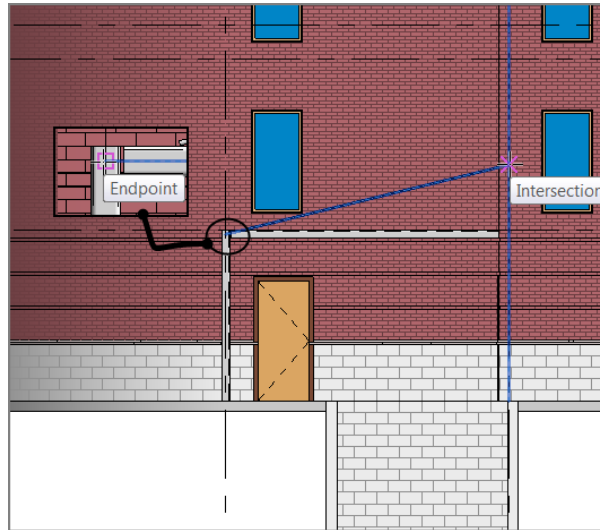

FIGURE 8.46: Adding the rod at an angle
10. Draw a diagonal bar, as shown in Figure 8.46. (I'll let you eyeball this one, or you can make the top offset a specific increment.)